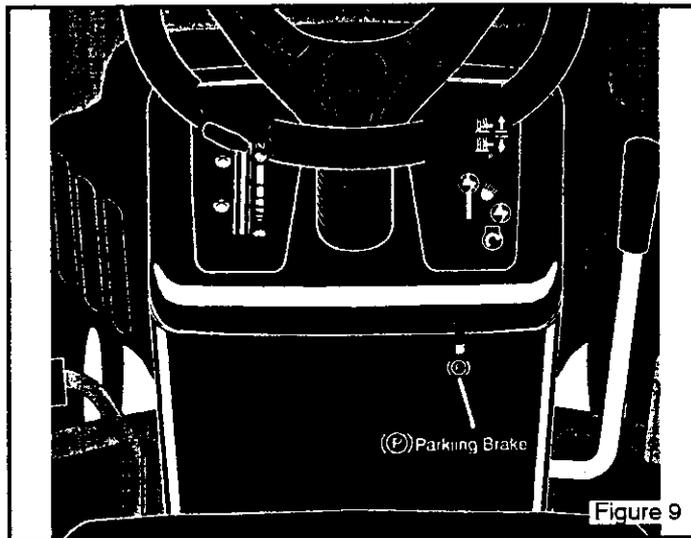

Figure 9
2. Lift the **parking brake lever** (Figure 9).
**WARNING:** Before you leave the operator's position, move the shift lever to the neutral (N) position. Set the parking brake. Move the blade rotation control to the DISENGAGE position. Stop the engine and remove the ignition key.